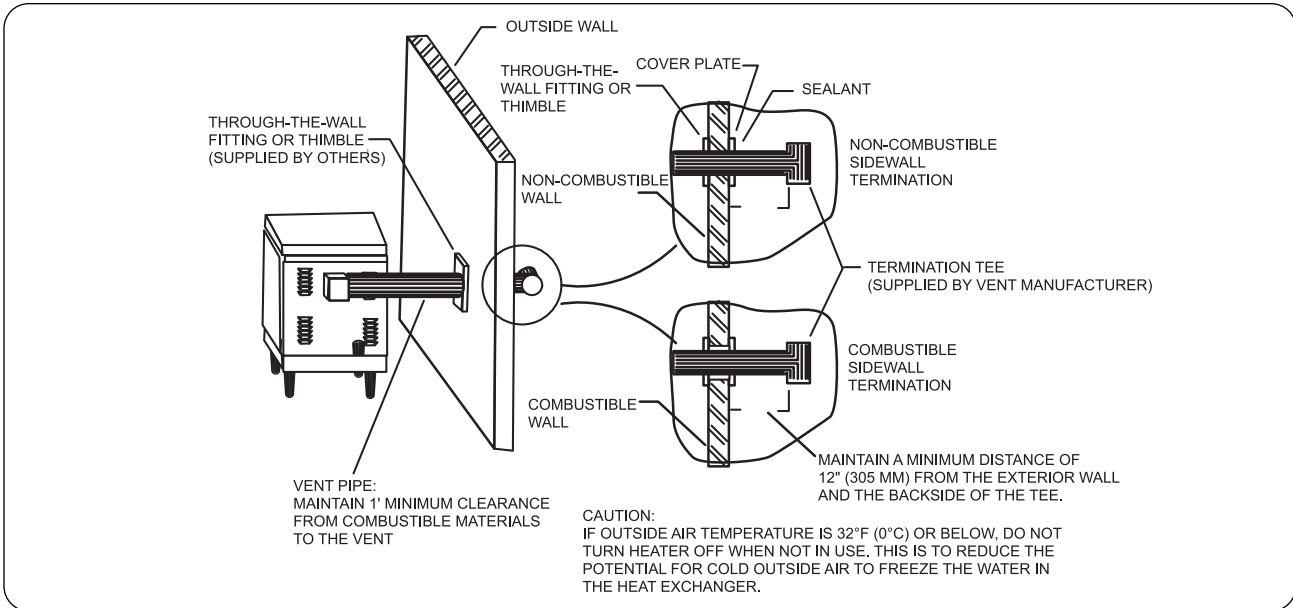

Figure 9. Typical Through-the-Wall Venting
- b. Horizontally vented through an outside wall directly to the outdoors. See additional instructions below. (See Figure 9.)